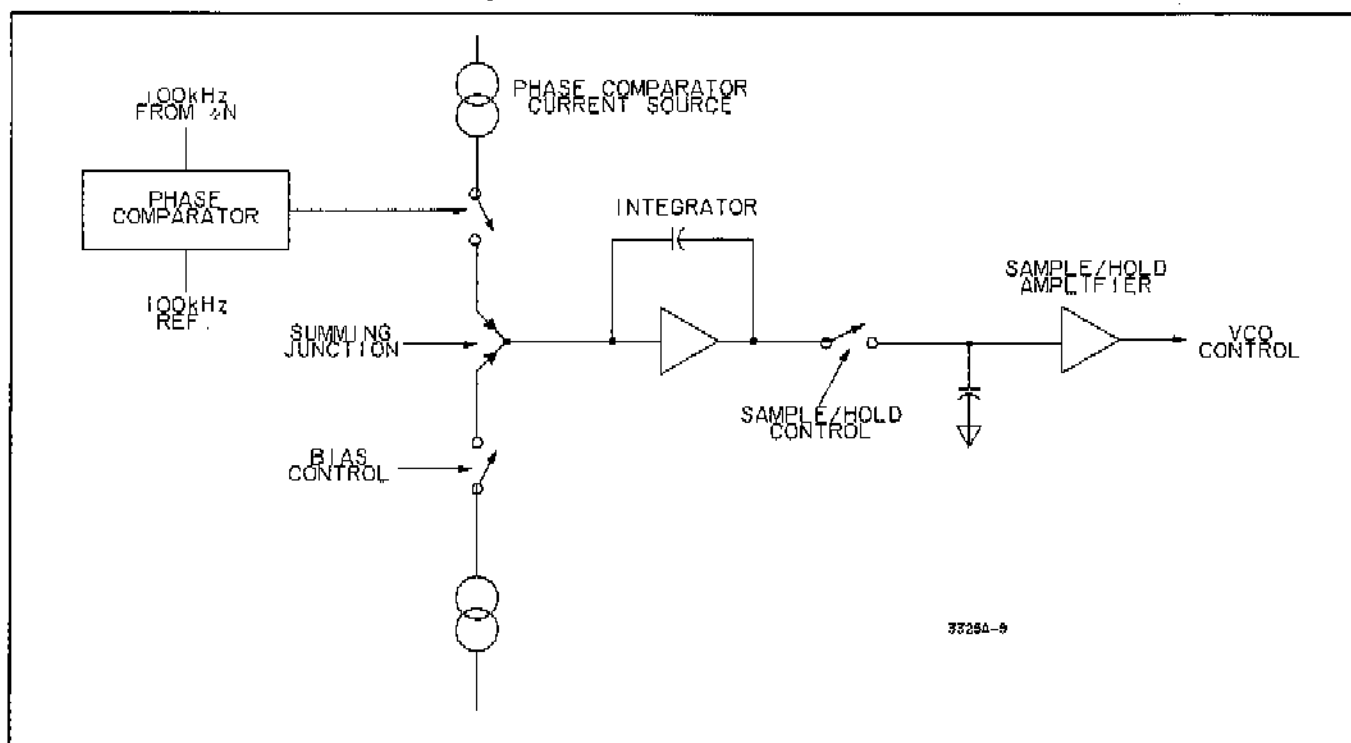
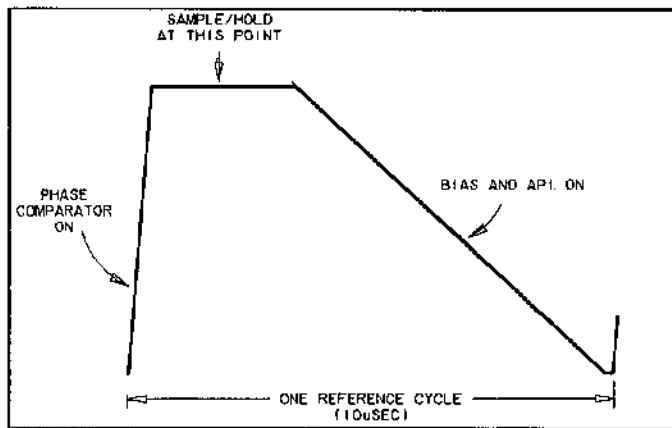

Figure 8-9. Phase Detector.
Figure 8-10. Integrator Output.
**8-30.** Now let us look at a more detailed diagram of the phase detector block (Figure 8-9). The control voltage to the VCO is the output of a Sample/ Hold amplifier which samples the integrator output at the proper time and at regular intervals. Ideally, this voltage would be exactly the same at each sampling time and the VCO frequency would remain constant. Let us assume that this is true, and that the  $\div N$  number is 400. In this case, the output of the phase comparator would be a series of pulses of equal width. Each pulse turns on a current source which causes a given amount of charge to be placed on the integrator. At a specified time this voltage is stored on the Sample/ Hold amplifier capacitor (Figure 8-9). The integrator output is illustrated in Figure 8-10. The charge slope is much greater than the discharge slope because the phase comparator current source has about ten times the magnitude of the bias current source.